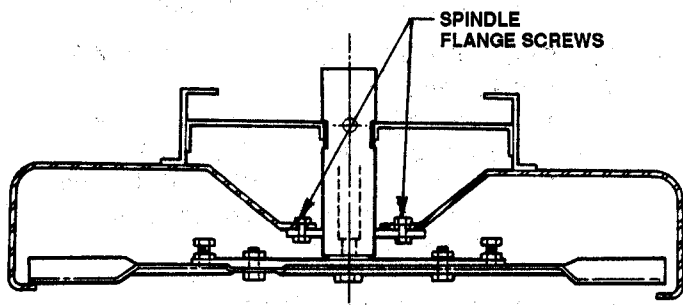

FIGURE 3.12
1. Loosen nuts on the three spindle flange screws. See Figure 3.12.